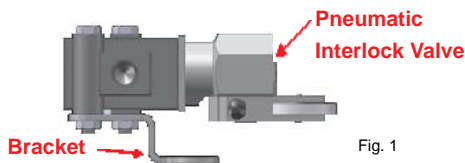

Fig. 1
3. Install Pneumatic Interlock Valve to Bracket, as shown in Fig. 1, using bolts and nuts supplied with Pneumatic Interlock Valve.